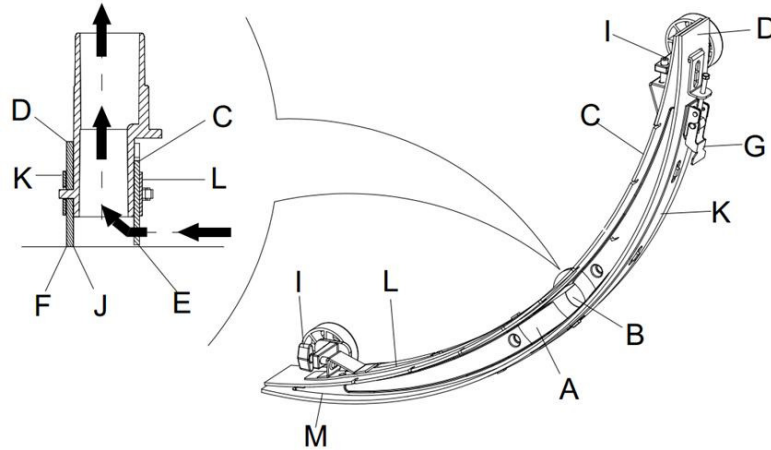

Figure 10
2. Press the power switch (38) to the "O" position to turn off the machine.
3. Unscrew the squeegee knobs (16); remove the vacuum hose from the squeegee assembly & remove squeegee.
4. Use the squeegee lift handle (14) to lift the squeegee mount bracket.
5. Using a damp towel, clean the squeegee (Figure 10). Clean in particular the groove (A, Figure 10) and the dirt and fragments on the vacuum tube. Check if the front squeegee blade (C) and the rear squeegee blade (D) are intact, and if there are broken edges and cracks. Replace them if necessary (refer to the steps in the following section).
1. Following the methods related in the previous section clean the squeegee (Figure 10)
2. Check the edge (E, Figure 10) of the front squeegee blade and the edge (F) of the rear squeegee blade (D). On the whole length, they should be level. Otherwise, adjust their heights through the following procedure.
- Loosen the clip (G) to let the rear squeegee blade (D) separate from the bracket (M) for the adjustment of the position of the squeegee. After the adjustment, lock the clip once again.
- Loosen the screw on the handle (I) to adjust the front squeegee blade (C); tighten the handle screw after adjustment.
3. Check if the front squeegee blade (C) and the rear squeegee blade (D) is intact and if there are broken edges and cracks. If damage is found, change them according in the following way. If the front edge of the rear squeegee blade (J) has worn, it can be flipped upside down and re-installed (the top edge is required to be intact). If the top edge is also worn, change it by following the procedure below:
- Loosen the clip (G) to let the pressure blade separate from the bracket (M), take off the clip bar (K), and then change or turn the rear squeegee blade (D) upside down. Re-install the rear squeegee blade in the reverse order of taking it off.
- Loosen the handle screw (I) and take off the front clip bar (L), and then change the front squeegee (C).